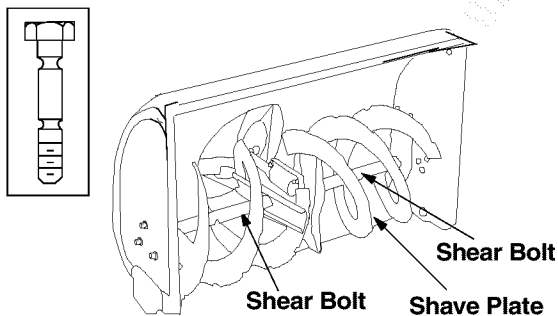

Figure 28
- Remove the four carriage bolts, belleville washers and hex nuts which attach skid shoes to the snow thrower on two sides. See Figure 28.
- To remove shave plate, remove the skid shoe and the rest of hardware including carriage bolts, belleville washers and hex nuts which attach shave plate to the snow thrower housing. For location of shave plate, see Figure 28.
The augers are secured to the spiral shaft with two shear bolts and hex lock nuts. See Figure 28. If you hit a foreign object or ice jam, the snow thrower is designed so that the bolts will shear. This type of nut is used where vibration occurs.
- If the augers do not turn, check to see if the bolts have sheared. Two replacement shear bolts (shown in Figure 28 inset) and hex lock nuts have been provided with the snow thrower. Since lock nuts cannot be threaded onto a bolt by hand, use a wrench. When replacing bolts, spray an oil lubricant into shaft before inserting new bolts.